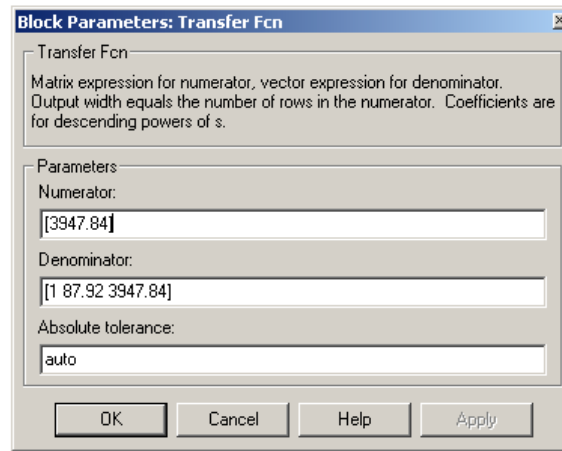

Figure 2.1: Parameters for Second Order System
- Set the parameters of the **Transfer Fcn** block as shown in Fig. 2.1